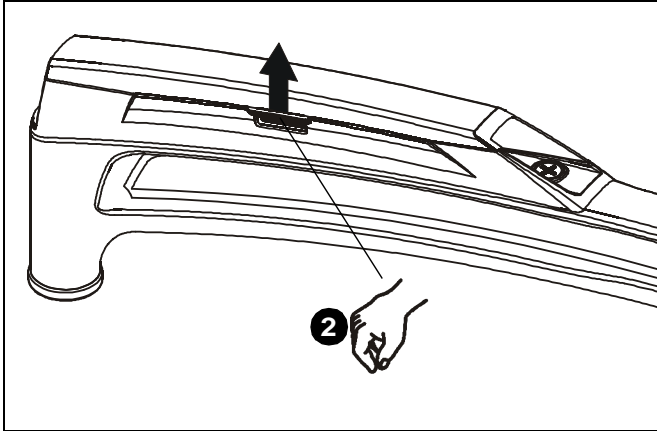

Figure 27
2. Open cable management covers on upper and lower swing arms by unHING center tabs and lifting covers to the open position. (See Figure 27)